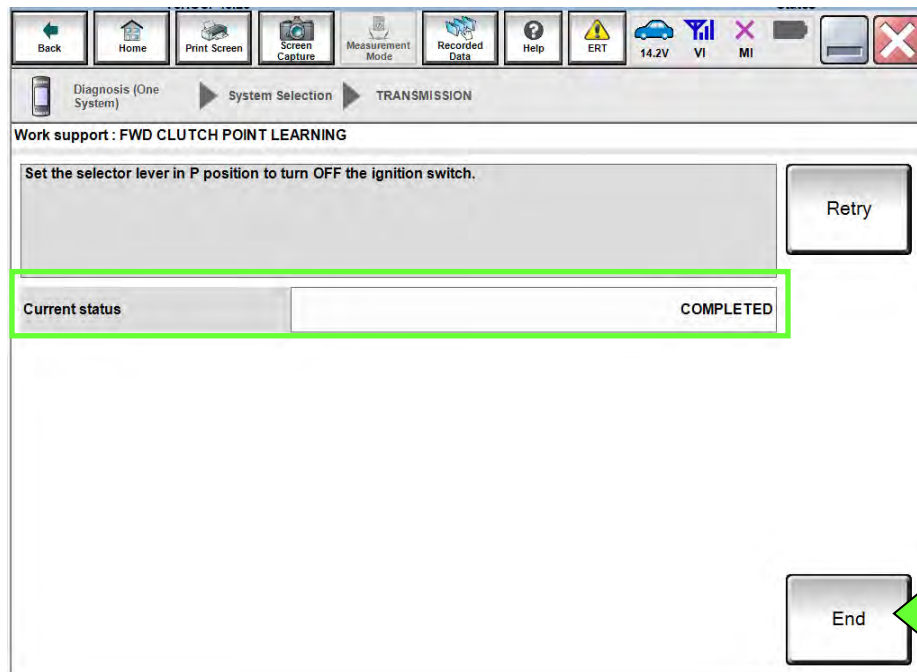

Figure 51
29. When the screen in Figure 51 is displayed, select **End**.